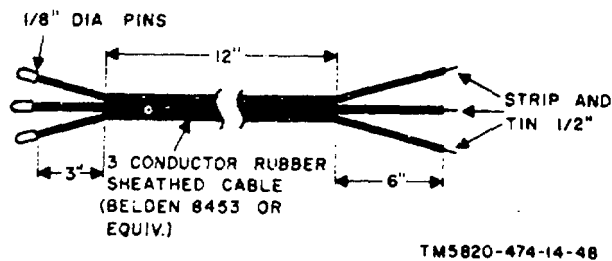

Figure 48. Test cable No. 3, construction details.
c. Test Cable No. 3 (fig. 48). Test cable No. 3 is used to connect the RCVR PWR jack to the dummy load resistors when either power supply is tested. One cable is required.